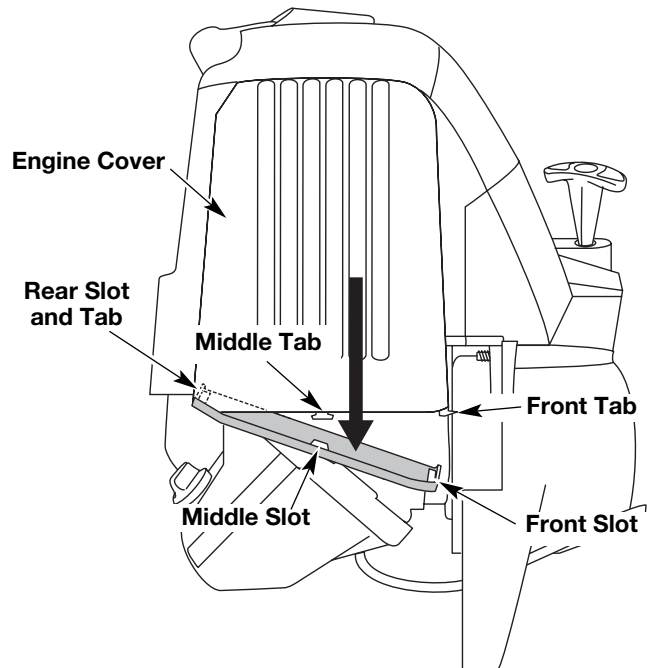

Fig. 62
1. Remove the muffler cover by pressing down on it, separating it from the engine cover. Using a flat blade screwdriver, disengage the middle and front tabs and slots first. The cover will hinge off from the rear tab (Fig. 62).
- Reinstall the muffler cover. Slip the rear tab on the muffler cover into the engine cover rear slot. Then slide the remaining slots into the tabs until they snap into place (Fig. 62).